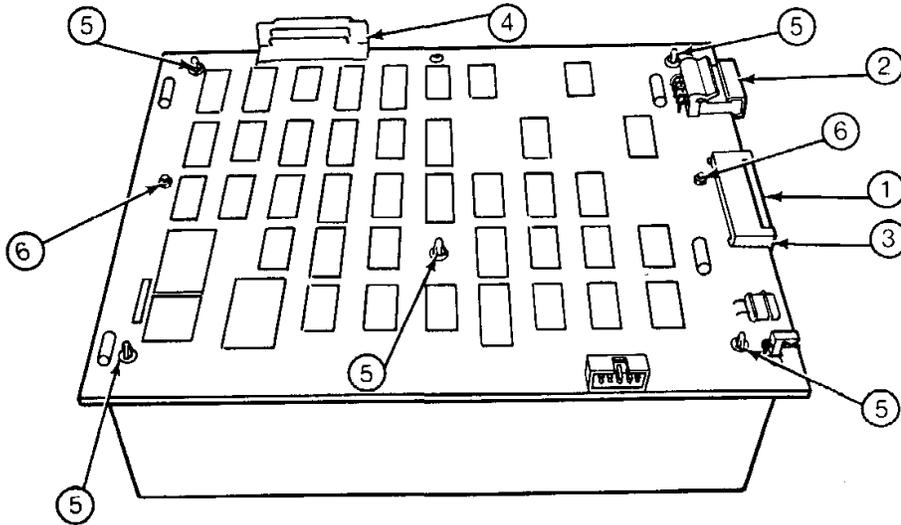

FIGURE 8
12. Disconnect the analog-to-controller and motor control cables from the board. (Figure 8, Items 1 and 2).
NOTE: Do not pull on the analog-to-controller ribbon cable to remove it. Gently ease out the controller end until the cable is free. (Figure 8, Item 3).
13. Remove the long middle screw at the rear of the controller card with a Phillips head screwdriver. (Figure 8, Item 4).
14. Use the needlenosed pliers to squeeze the sides of each of the plastic holders so that the board can be lifted up and off of them. (Figure 8, Item 5).
NOTE: Do not pull on the analog-to-controller ribbon cable to remove it. Gently ease out the connector end until the cable is free. (Figure 8, Item 3).